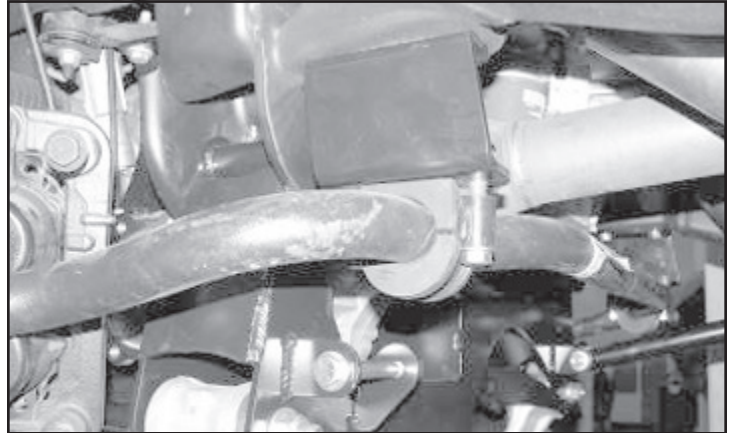

FIGURE 54 - STEP 40
40. Locate FT20312 (Drv), FT20318 (Pass) Sway Bar Frame Bracket, and the supplied 7/16"x2 1/4" and 10mm x 30mm hardware. Position the frame bracket on the frame so that sway bar will be farther back from the suspension and attach with the 10mm hardware. Locate the factory sway bar with the factory mounts and attach to the new brackets with the 7/16" hardware and torque to 50 ft-lbs. and the 10mm hardware to 25 ft-lbs. **SEE FIGURE 54**